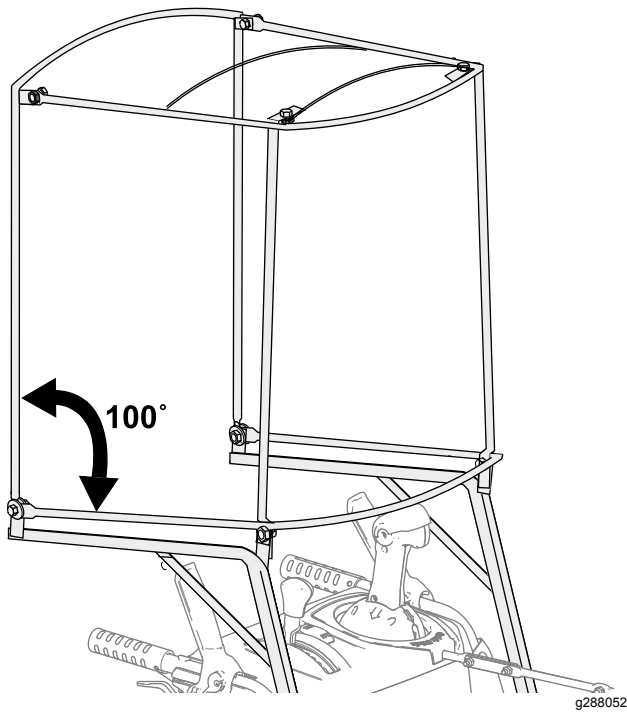

Figure 5
1. Bolt, 1/4 x 5/8 inch (4)
2. Locknut (4)
6. Ensure that the angle between horizontal frame and the rear frame is about 100° (Figure 5).